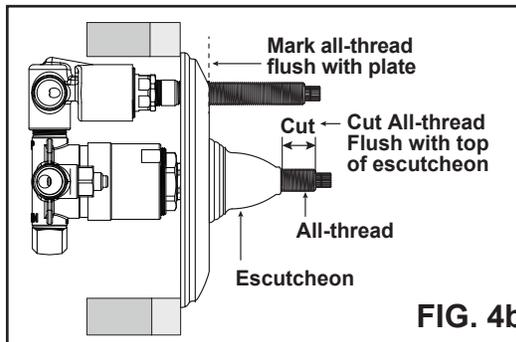
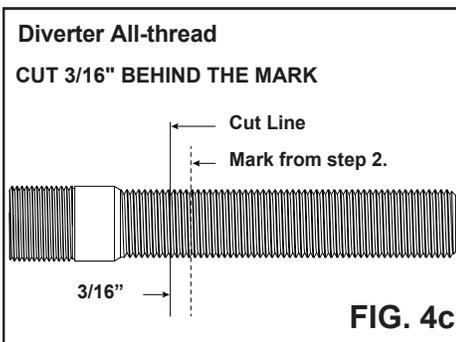
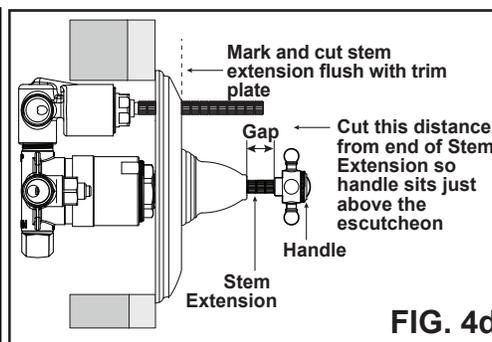

FIG. 4b
FIG. 4c
FIG. 4d
2. **For the diverter**, mark the all-thread flush with the trim plate. FIG 4b Remove the all-thread and cut 3/16" behind the mark so that the all-thread will be 3/16" behind the trim plate when reinstalled. FIG 4c Mark the stem flush with the trim plate, remove the stem, and cut at the mark. FIG 4d Reassemble the stem and the all-thread (making sure the locking nut is tightly securing all-thread), then the plate. Position the lever of the diverter handle at a 12 o'clock, while using the knurled nut to fully thread the diverter handle onto the all-thread. FIG 4e
3. **For the center handle**, screw on the escutcheon to the all-thread and mark the all-thread flush with the top of the escutcheon. Cut the all-thread at the mark. FIG 4b Place the handle onto the stem and measure the gap between the bottom of the handle and the top of the escutcheon, then cut the gap distance from the stem so the handle sits just above the escutcheon (the stem should protrude out from the all-thread around 1/4"). FIG 4d Reassemble the stem, all-thread, escutcheon, and handle. FIG 4e See page 3 for heavy handle tension adjustment if necessary
3. **For the center handle**, place the handle assembly over the all-thread and measure the gap between the bottom of the handle and the trim plate. This represents the amount that should be cut from the all-thread. Make the cut conservatively and re-install to verify, then cut further if necessary. FIG 4b Stem extension should at all times be visible for proper installation. Therefore, STEM SHOULD ALWAYS BE 1/4" LONGER THAN ALL-THREAD.